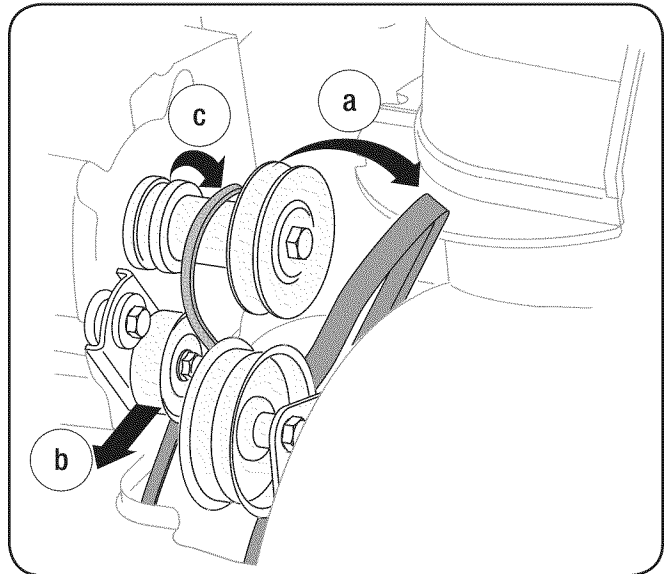

Figure 8-6
2. Remove the belt as follows. See Fig. 8-6.: